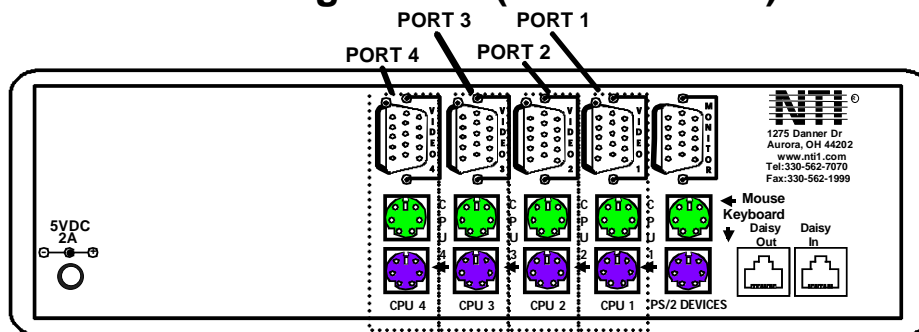

Figure 8- Connections grouped by port number
**NOTE: The “port” mentioned in the “Command Functions” above refers to the combination of the video (VIDEO x), mouse and keyboard (CPU x) of like numbers that a CPU is connected to (i.e. the CPU that is connected to VIDEO 1 and CPU 1 will be identified as Port 1 or P01). (See Fig. 8 on page 9.)**